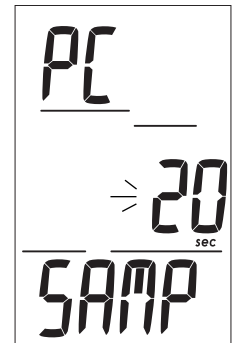

Fig. 35 - Set SAMPLING
Set Sampling Rate (SR), information includes (Fig. 35):